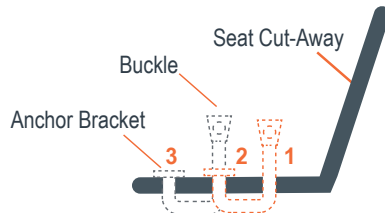

Fig. 39b
1. To shorten the length of the buckle webbing, place the anchor bracket through the first slot in front of buckle. The anchor bracket is forward from the actual buckle (Fig. 39b).